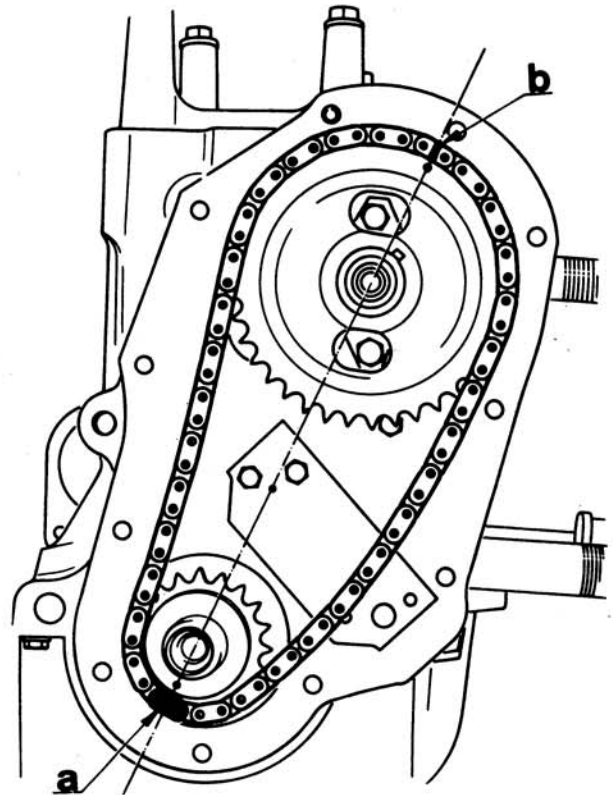

FIGURE 54. CAM SPROCKET AND CHAIN ALIGNMENT
Install the timing chain, making sure that the marks on both sprockets are in line with marks (A) and (B) on the chain (Figure 54).